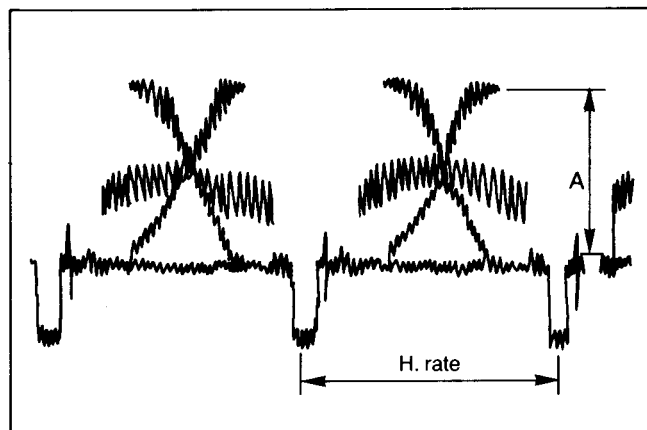

Fig. C12
- (4) Adjust the YH Level Control (VR302) so that the signal level "A" is  $1.4V \pm 0.06V_{p-p}$  as shown in Fig. C12.
- (5) Disconnect the jumper wire between TP4, TP5 and TP6.